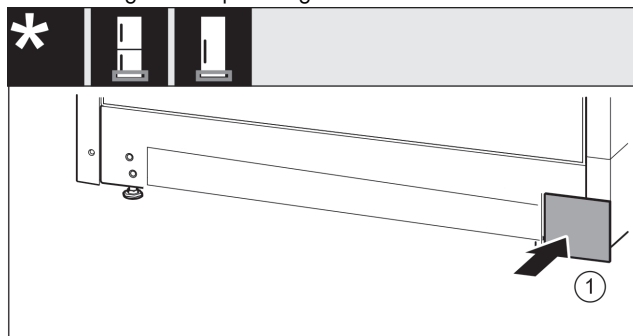

Fig. 40
- Re-attach the cover Fig. 40 (1) to the other side.